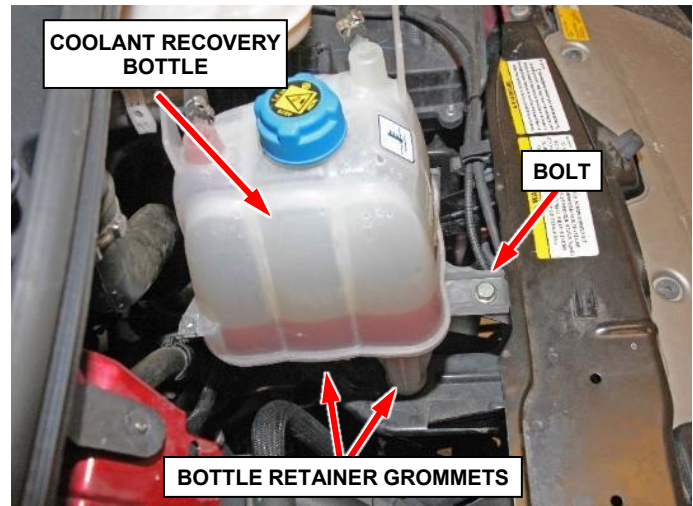

Figure 10 – Coolant Recovery Bottle
5. Remove the bolt and position aside the pressurized coolant recovery bottle (Figure 10).
30. Position the pressurized coolant recovery bottle in the proper location then install the bolt. Tighten the bolt to 12 N·m (9 ft. lbs.) (Figure 10).